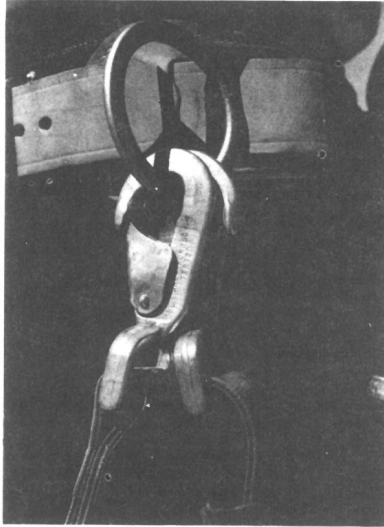

FIGURE 5.
b. When poles are being climbed under normal conditions, both snaps should be engaged in the same D-ring for safety. The snap on the double end should have the keeper facing outward; the other snap should face inward. See Figure 5.